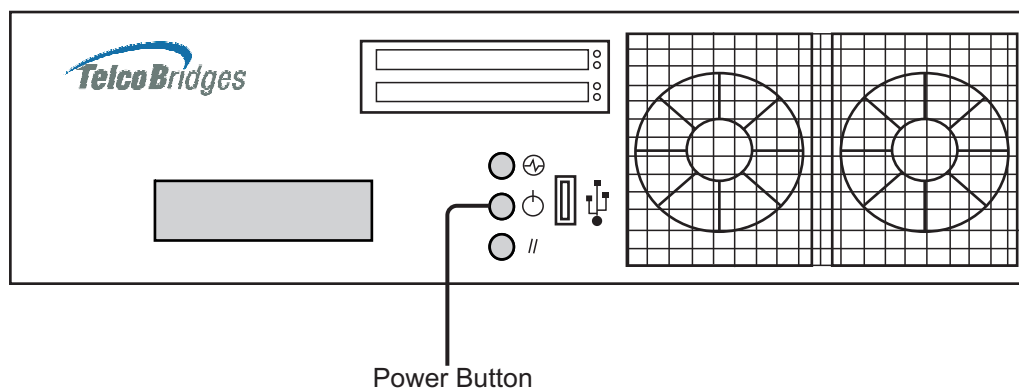

Figure 2.9 Power Button
2. Press the power button at the front of the TMG5800. See figure 2.9 on page 19.
5. Press the power button at the front of the TMG5800. See figure 2.9 on page 19.